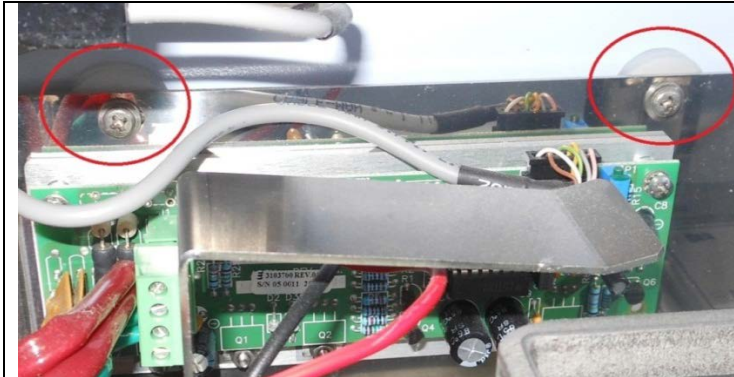

Fig. 2
4. Unscrew PSU mounting screws (**Fig. 2**).